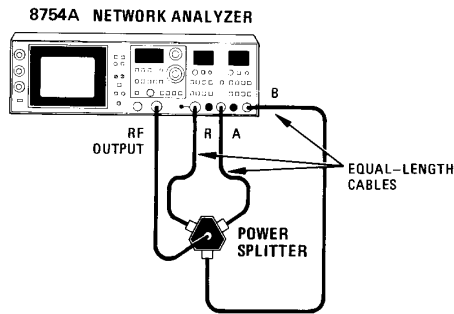

Figure 2-8. Ratio Measurement Test Setup
16. Connect equipment as shown in Figure 2-8. Set analyzer controls as follows: